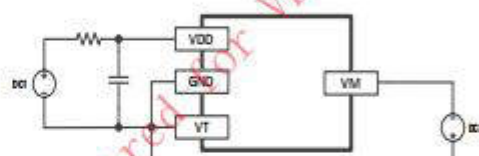

Figure6-4
- According to the figure6-4, connect the DC1 power supply to the B + and GND pins of the system board and set the voltage to about 3.0V/3.6V/4.2V, and load DC2 power supply from GND to VM.